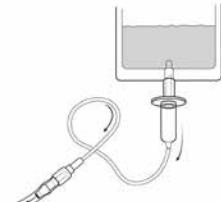

Figure 41
2. Test catheter patency by infusing 1 liter sterile saline (Figure 41) after attaching appropriate transfer set to the connector.